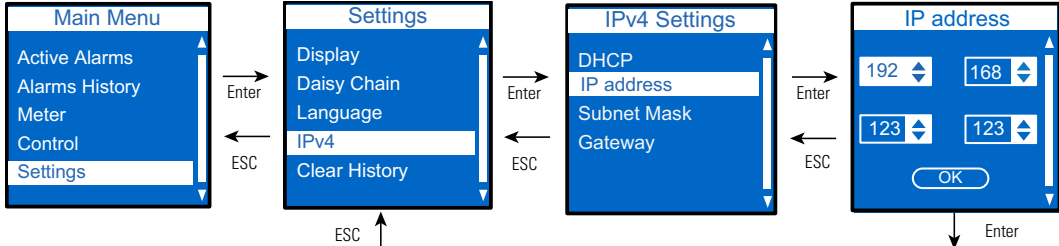

Figure 47. Set the Static IP Address
- 2. Set the static IP address (see Figure 47). Wait 10 seconds.